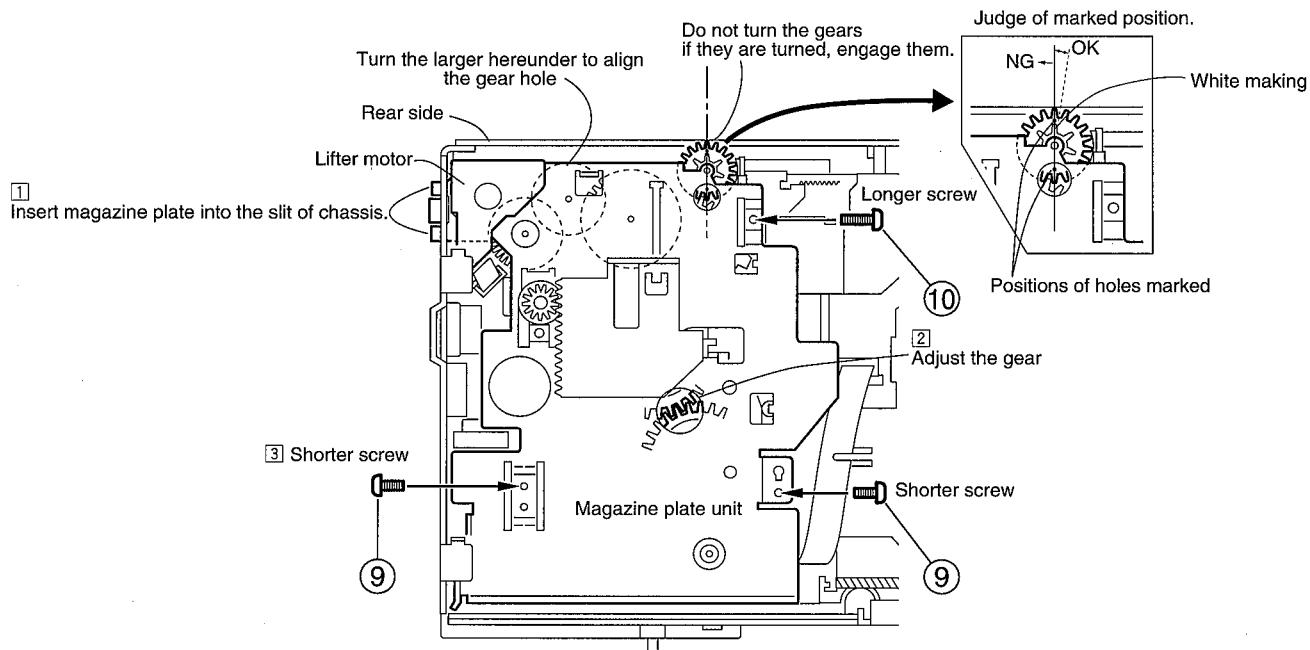

Fig.2-15
2. When installing the magazine plate unit ass'y, follow the instructions ①, ② and ③ described in the Fig.2-15.